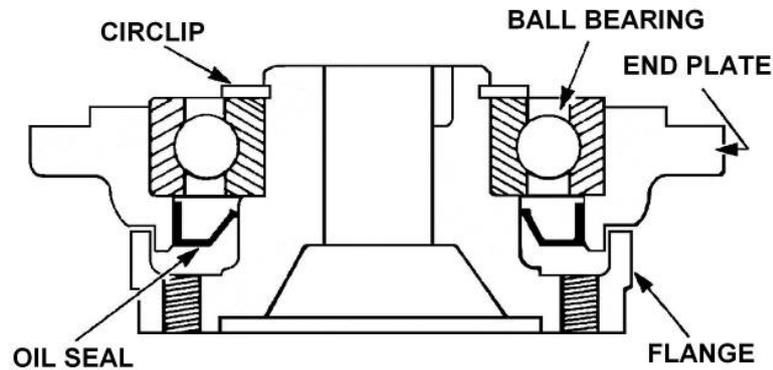

Figure 219 Removal of the Flange, End Plate and Bearing
- e. Remove the external circlip retaining the ball bearing on the flange, supporting the end plate, press the flange off the bearing (Figure 219). Support the end plate and press out the oil seal and ball bearing.